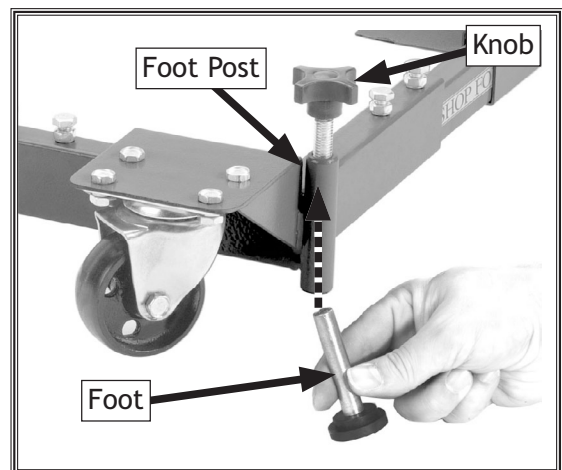

Figure 12. Installing foot pad and knob into a foot post.
9. Thread a knob into the top of a foot post several turns, then insert a foot into the bottom of the foot post, as shown in **Figure 12**. The knob shaft should pick up the foot when it comes in close proximity since the top of the foot is magnetized.
1. Thread a knob several turns into a foot post, as shown in **Figure 12** in *Assembling Base* on **Page 5**.
2. Insert a foot into the bottom of the foot post (see **Figure 12** on **Page 5**). The shaft of the knob should pick up the foot when it comes in close proximity since the top of the foot is magnetized.